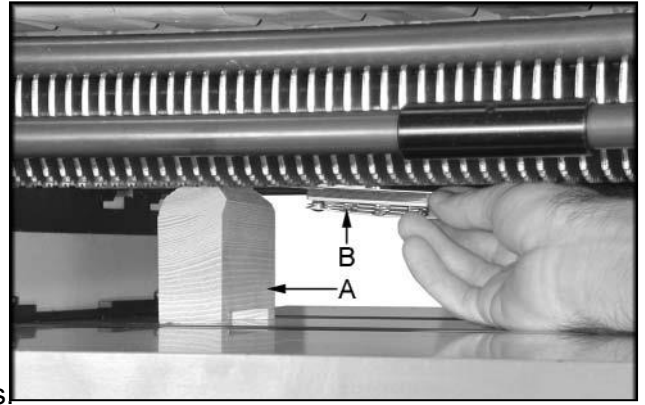

Figure 14
2. Place a hard wood gauge (A, Figure 14) under a knife in cutterhead. Place a 0.02" feeler gauge (B, Figure 14) on top of wood block and raise table until feeler gauge contacts the knife in its lowest position.
2. Place a hard wood gauge (A, Figure 14) under a knife in the cutterhead. Place a 0.02" feeler gauge (B, Figure 14) on top of wood block and raise table until the gauge contacts the knife in its lowest position.